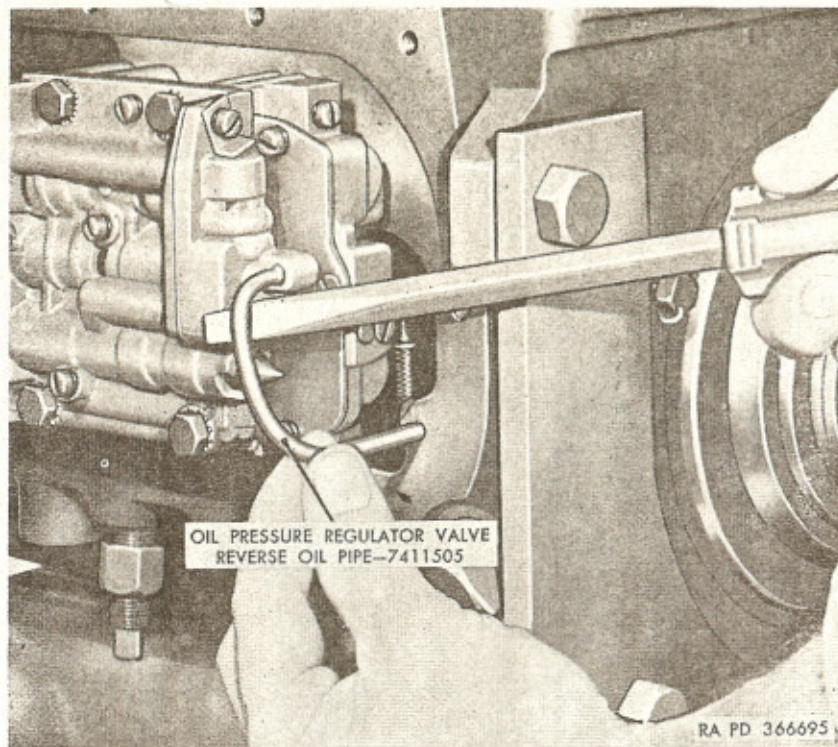

Figure 34. Removing oil pressure regulator valve reverse oil pipe.
a. Remove oil pressure regulator valve reverse oil pipe (fig. 34) by pulling straight out. It may be necessary to use light screwdriver pressure to start pipe out. Be careful not to bend pipe.